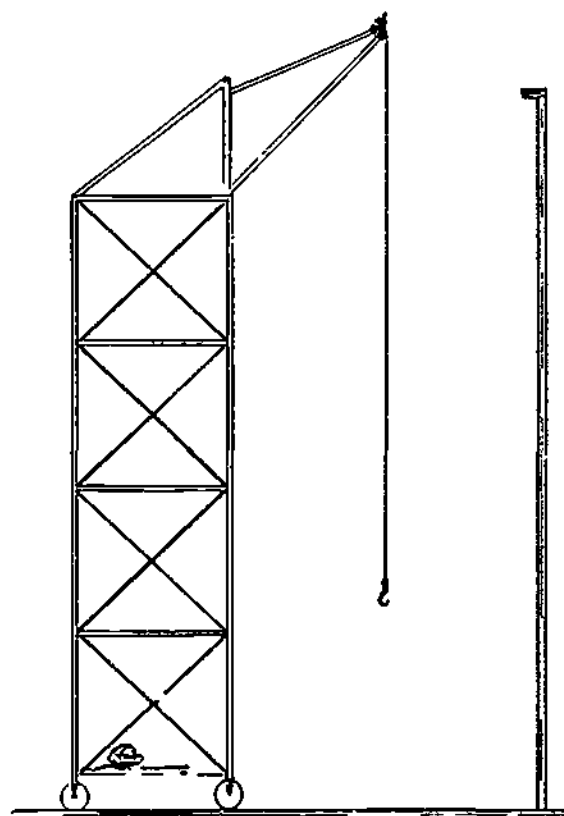

Figure 12-25. Structural Buggy
**Structural Buggy Method** When equipment for the structural buggy method is available at the site, this method is optional, since one of the other methods may be more expedient. Considerable expense is involved in erecting and dismantling a structural buggy, and only when expansion roofs of medium diameter are being installed can the method be used to any advantage. Also, when snow and ice are present on the bottom the structural buggy is very difficult to move. As the structural buggy method is required on large diameter tanks, the method is explained under that heading (Figure 12-25).